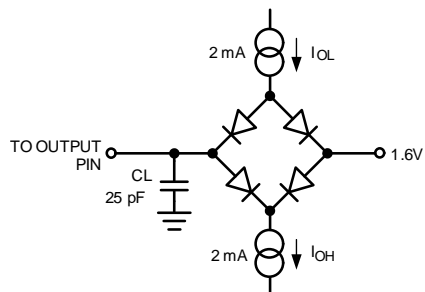

Figure 2. Timing Test Circuit
(1) Typical values are at $T_J = 25^\circ\text{C}$ and represent most likely parametric norms. Test limits are specified to TI's average outgoing quality level (AOQL).
(2) t_{DIS} is the time for D_{OUT} to change 10% while being loaded by the timing test circuit (see Figure 2).